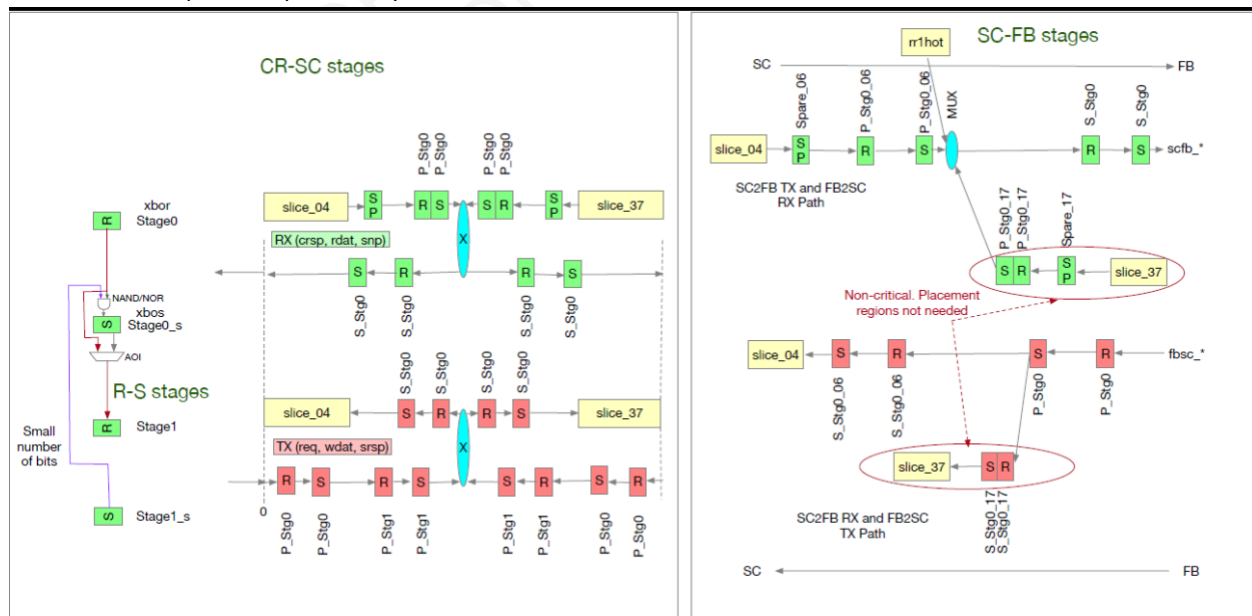

Figure 18 - **sc_partition** flop stages
The **tt_sc_slice_top** blocks are placed in the **tt_sc_partition** block such that the even slices are placed to the left and odd slices are placed to the right. The R-S staged flops are bound (placement regions) such that each of the R-S (**xbor*/xbos***) stage is optimally and equally spaced for the TX paths from cores to **sc_partition**, continuing to **sc_slice_top**. RX path R-S flop stages are equally spaced. Figure 18 illustrates the R-S stage placement in **sc_partition**, where:
- The left side of Figure 18 shows:
- RX stages start from far slices and go through one R-S stage before the crossbar (**PStage0**) and one stage after the crossbar (**SStage0**). The rest of the RX path to Cores is at the **sc_main**/cluster level. Figure 18 only shows the far slices (0, 4, 3 and 7) from the crossbar because the other slices are not critical and don't need placement regions.
- The right side of Figure 18 shows: